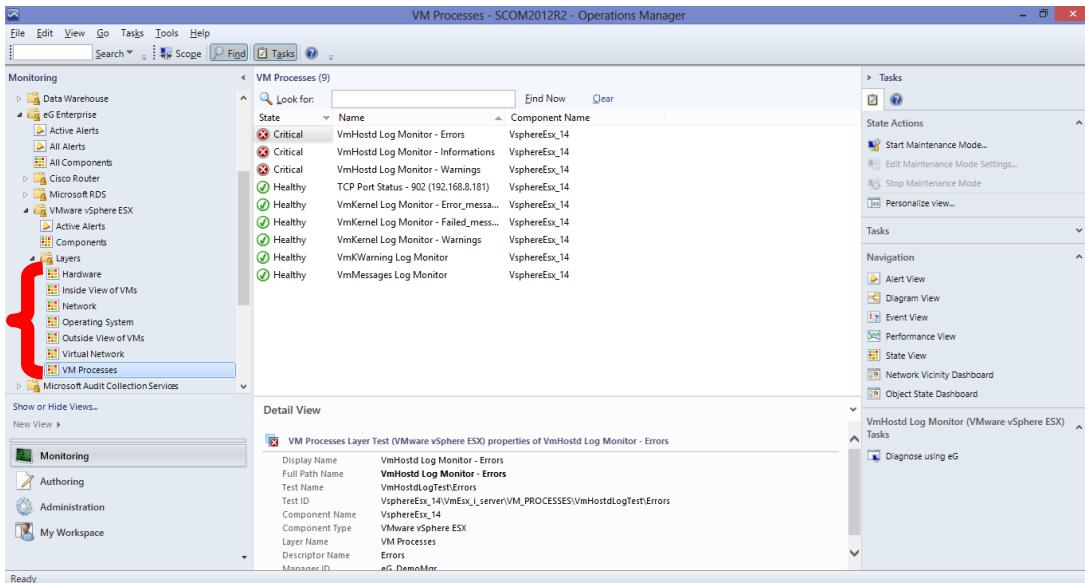

Figure 3.17: Viewing the layers as sub-nodes of the 'Layers' node
7. Then, click on a layer in the tree-structure. Upon clicking, all the tests mapped to that layer, the descriptors they support (if any), and the current state of each test will be available in the right panel (see Figure 3.17). Clicking on a row of information here will provide complete details of the test and descriptor in the **Detail View** below.
8. If a test is in a **Critical** or **Warning** state, you may want to know which measure of that test reported the abnormal measures and why. To zoom into the root-cause, you may want to launch the eG monitoring console from the SCOM console itself. For that, click on the **Diagnose using eG** option in the **Actions** pane of Figure 3.17. This will launch the eG monitoring console, where the complete layer model of the VMware vSphere ESX server will be displayed, and the problem layer, test, and measurement highlighted.